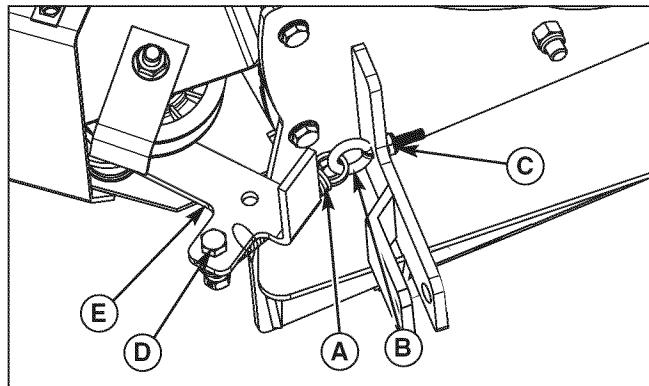

Figure 10. Install Idler Spring
4. Loop the idler spring (A, Figure 10) through the 1/4" x 2" eyebolt (B). Install the eyebolt through the L-bracket on the blower mount and install the 1/4-20 nylock flange nut (C). Tighten the nut until the eyebolt contacts the L-bracket.
*Note: For 52" decks, the spring anchor bolt (D) has to be reversed. So that the idler spring can be attached to anchor bolt above the idler arm (E).*